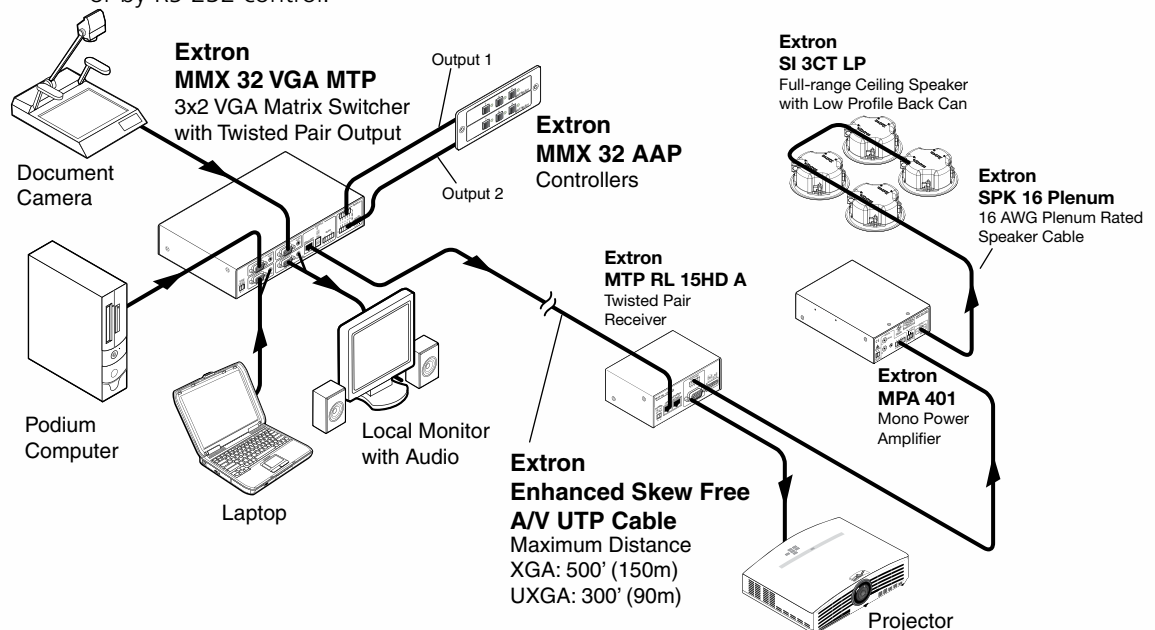

Figure 1. Typical MMX 32 VGA MTP Application
- **Additional accessories** — Extron twisted pair receivers—MTP U series and MTP RL 15HD A (sold separately)—are required for use with the MMX 32 VGA MTP for output 2. See the application diagram (figure 1) on page 1.